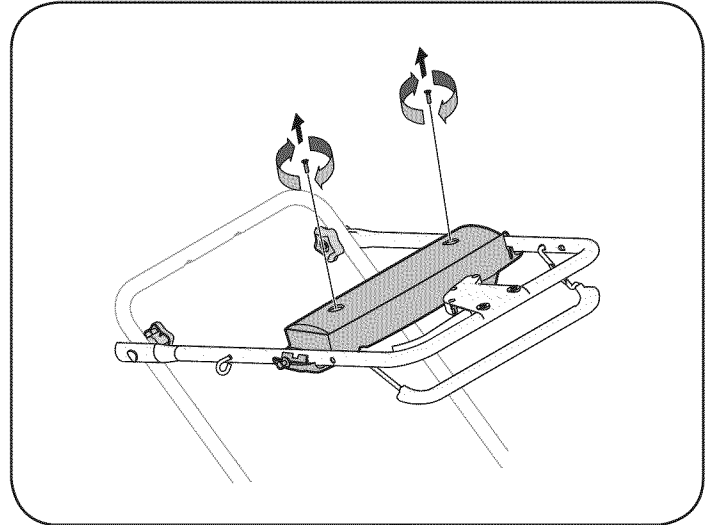

Figure 19
1. Loosen star knobs securing upper and lower handles and carefully fold the upper handle down toward the lower handle as shown in Figure 19.
2. Remove the two screws securing battery cover to battery housing and place them to the side. See Figure 19.
1. Open the battery cover as described in Replacing Battery. See Figure 19.